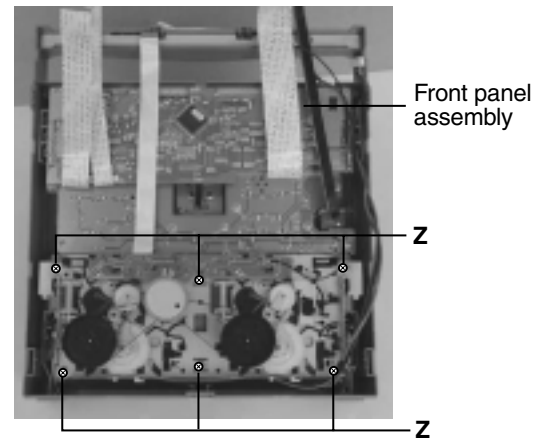

Fig.19
■ Replacing the CD turn table and removing the motor (See Fig. 19)
■ Removing the cassette deck mechanism (See Fig.19)
■ Removing the cassette deck main motor, and replacing the main belts (See Fig.19, 24 and 25)
1. Remove six screws **Z** retaining the cassette deck mechanism. (Fig.19)
■ Removing the leaf switches of the cassette deck mechanism (See Fig. 19 and 26)
1. Remove the six screws **Z** that retain the cassette deck mechanism. (Fig.19)
■ Removing the cassette deck heads (See Fig. 19 and 27)